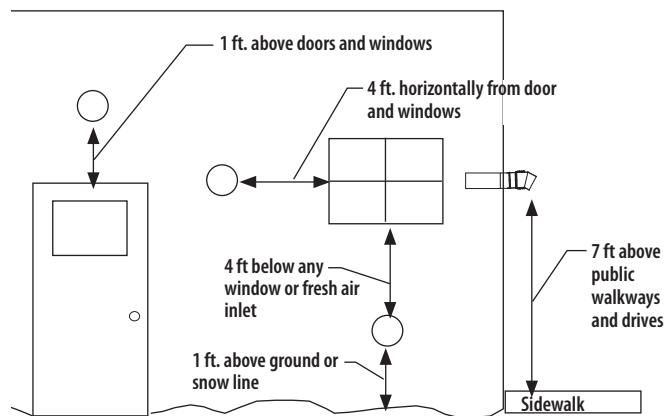

Figure 1 - Horizontal Termination Requirements
- When venting through a sidewall, terminate the system not less than 12" (.3m) above the ground and above the snow line in geographical areas where snow accumulates. The termination area must be kept clear of snow and ice at all times. See **Figure 1**.
- Terminate the system at least 7' (2.1m) above a public walkway or driveway, no less than 6' (1.8m) from the combustion air intake of any appliance or 3' (.9m) from any other building opening, gas utility meter, service regulator or the like. Less distance is permitted if specified in the appliance's installation instructions. It also shall terminate at least 3' (.9M) above any forced air inlet within 10' (3.1m) and shall terminate at least 4' (1.2m) below, 4' horizontally from, or 1' (.3m) above any door, window, or gravity air inlet into any building as provided in the National Fuel Gas Code ANSI Z223.1 and NFPA 54. See **Figure 1**. Proper judgment may require greater distances depending on the side of the equipment installed or to allow for snow drifting or falling from falling from overhead roofs or trees. The termination should be far enough away from trees, shrubs, or decorative items to prevent damage.